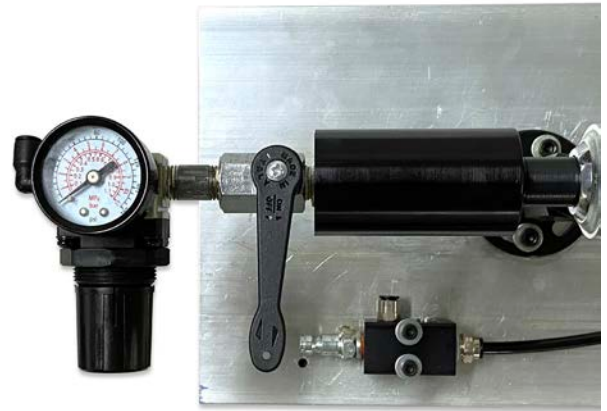

FIGURE 32—Top view, mounted to the bar feeder and the base.
- B. Thread the regulator assembly onto the end of the bar feeder tube. Use Teflon tape or pipe thread sealer on the threads (see Figures 32 and 33).